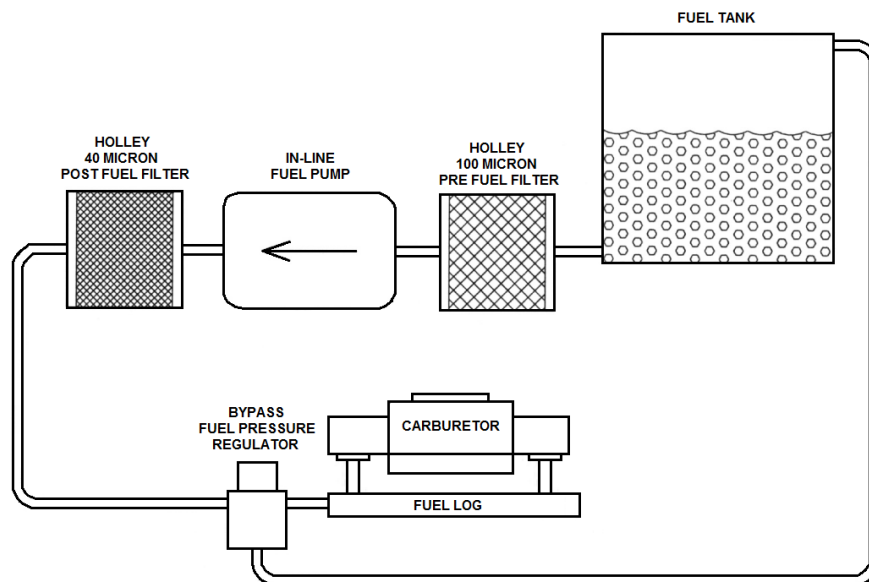

Figure 1a (Carb applications only)
5. Connect the fuel supply line from the tank to the pre-filter and then **to the inlet port of the pump**. Connect the main fuel feed line to the outlet port of the pump, then to the post filter. See **Figures 1a and 1b**.
NOTE: A return style fuel pressure regulator is required for use with the Holley DOMINATOR fuel pumps. Please refer to the chart on page one for recommended fuel pressure regulators. Refer to figures 1a, and 1b, for recommended plumbing scenarios. .